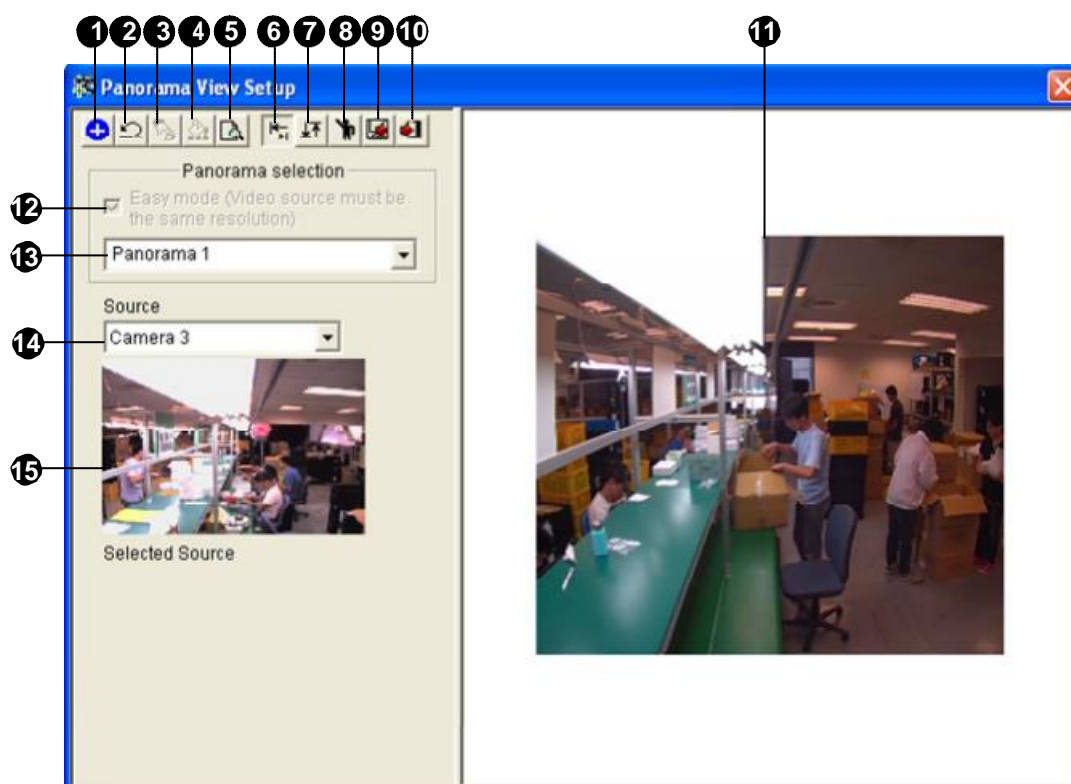

Figure 3-43
1. Select one panorama set (No. 13, Figure 3-43) from the drop-down list. If you want to rename the selected panorama set, type the name in the field.
2. Select one camera from the Source drop-down list (No. 14, Figure 3-43) and then click **Manual Setting** (No.3, Figure 3-43). This dialog box appears.
8. When you finish stitching images, click the **Save Before Exit** button (No.6, Figure 3-43) to save the created panorama view before exiting the Panorama View Setup dialog box.
1. Select **Easy Mode (Video source must be the same resolution)** (No. 12, Figure 3-43).
2. Use the **Source** drop-down list (No. 14, Figure 3-43) to select the first camera view to be placed in the panorama and click the **Add**  button. The first camera view is added to the Preview Window.